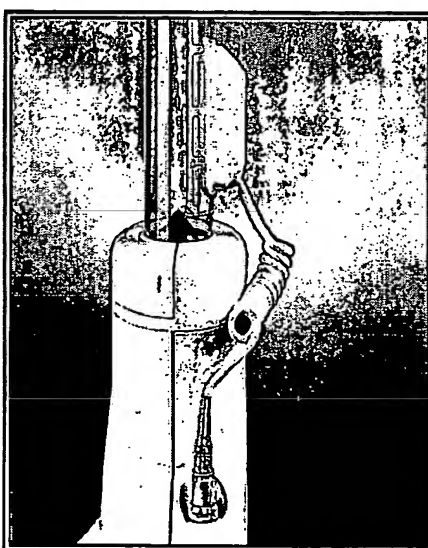

Figure 2.11 Attached Warmer
3. Attach the warmer to the syringe as shown in Figure 2.11.